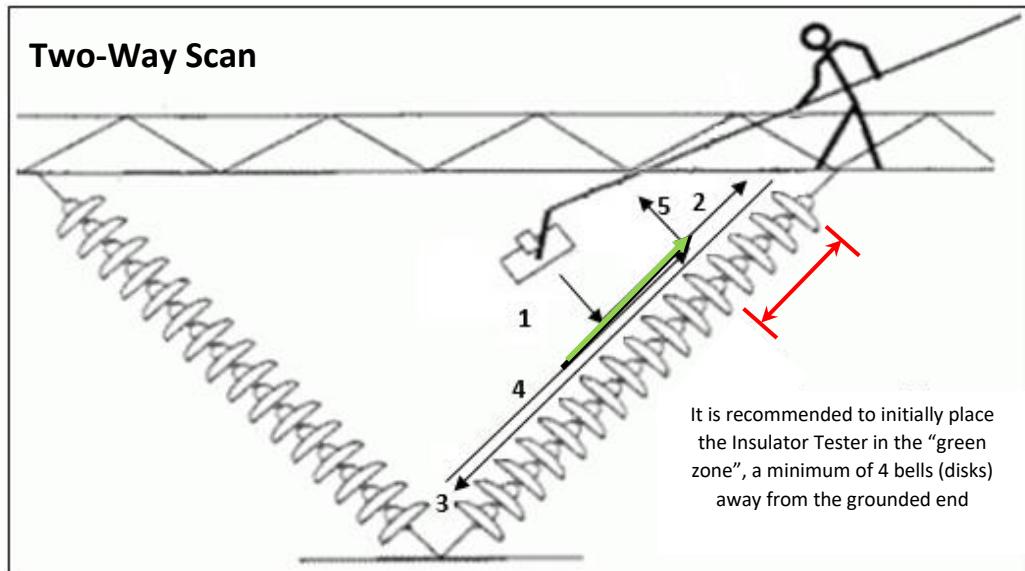

Figure 13
- **Two-Way scan:** On Horizontal and V strings configuration, it is easier to perform a Two-Way scan because the weight of the Tester is counter-balanced by the hot-stick. Before the sled is touching the insulator string in the middle, the weight of the Tester is counter-balanced by the length of the hot-stick. After the scan is completed, the sled is removed from the insulator string and the weight of the Tester is counter-balanced again by the length of the hot-stick. One or more discs scan overlapping is required between location 1 and 5 to make sure every insulator is scanned at least twice. See Figure 13.
Once the Probe is securely fastened to the sled and the hot stick is attached, follow this procedure, per Figure 13:
1. Following the instructions of the Tablet Operator, press the Push-button on the Probe (See Figure 12) and place the Insulator Tester a minimum of 4 bells (disks) away from the grounded end. See the **Green Zone** in Figure 13.